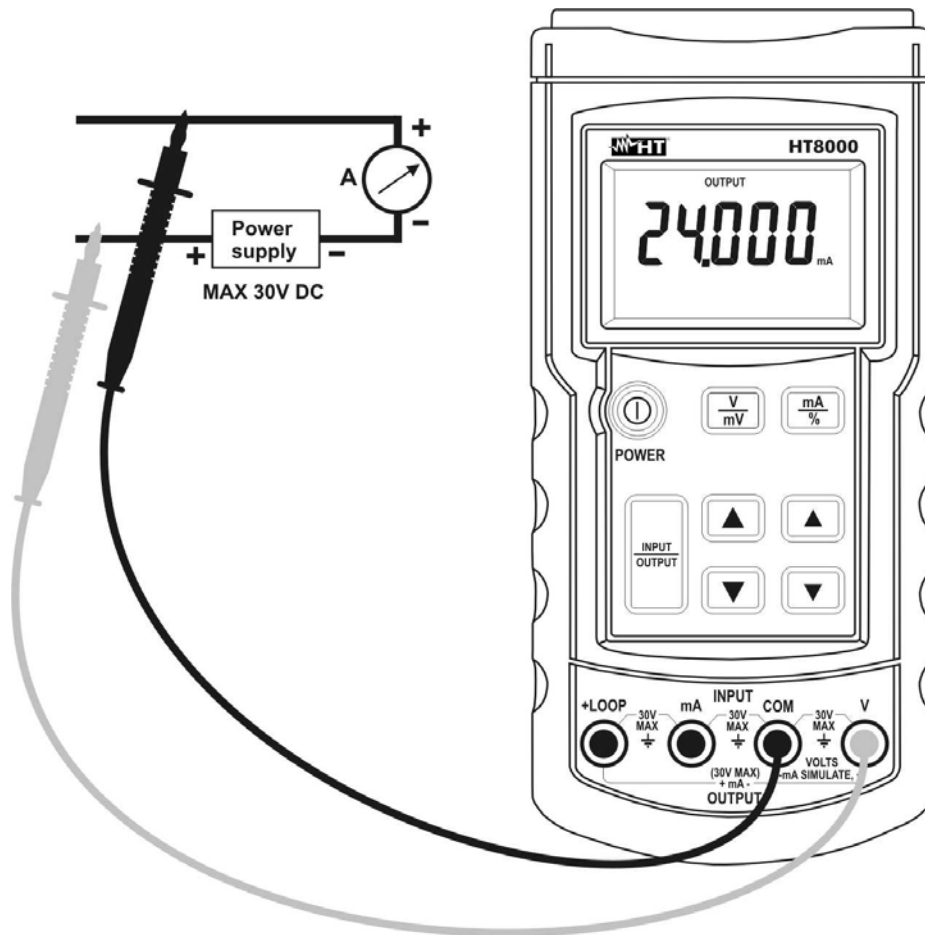

Fig. 7: Simulating of a transducer
4. Connect the red and black test leads respectively to the positive of the external power supply and positive pole of the external measurement device (e.g. multimeter – see Fig. 7)
6. For the generation of a negative value of current connect the test leads in the opposite direction than shown in Fig. 7